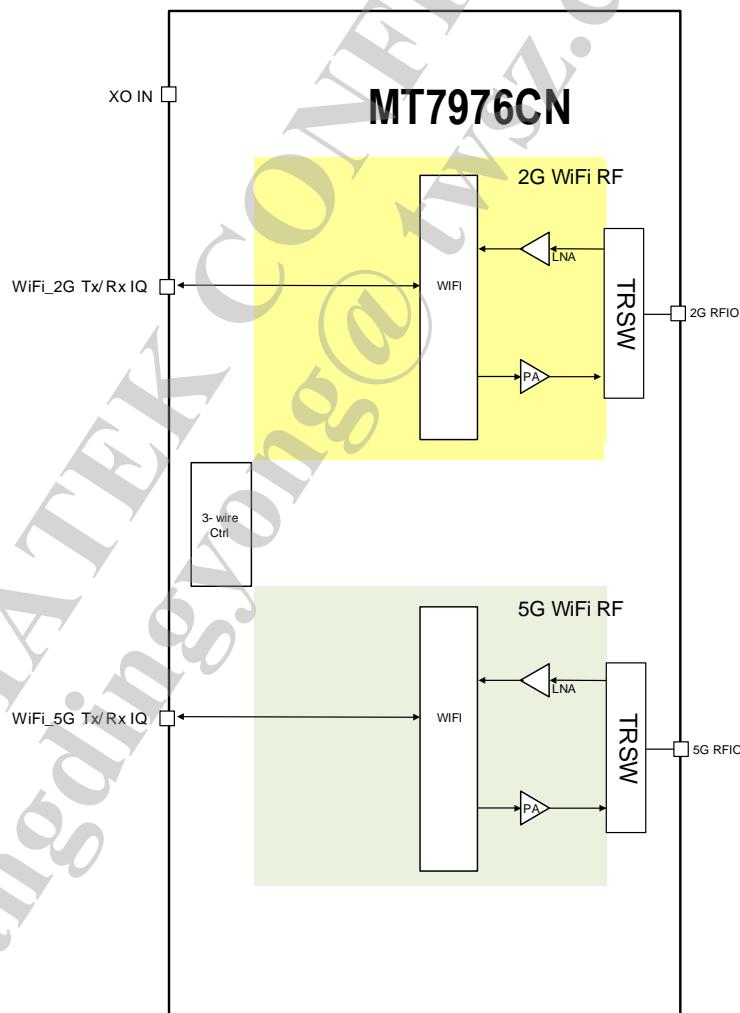

Figure 1-1. MT7976CN block diagram
MT7976CN is an IEEE WiFi 6 MIMO RF chip which contains 2.4 GHz WiFi transceiver front-ends and 5 GHz WiFi transceiver front-ends in a DRQFN package. Simplified block diagram and how MT7976CN is used are shown in Figure 1-1. The top control logics control each subsystem independently. Each subsystem also has dedicated LDOs. A thermal sensor and a low-speed ADC (Analog-to-Digital Converter) are provided to monitor MT7976CN's temperature variation. MT7976CN have its dedicated crystal oscillator (XO) circuit. Besides, XO circuit provides an external clock source to other chips in the platform.